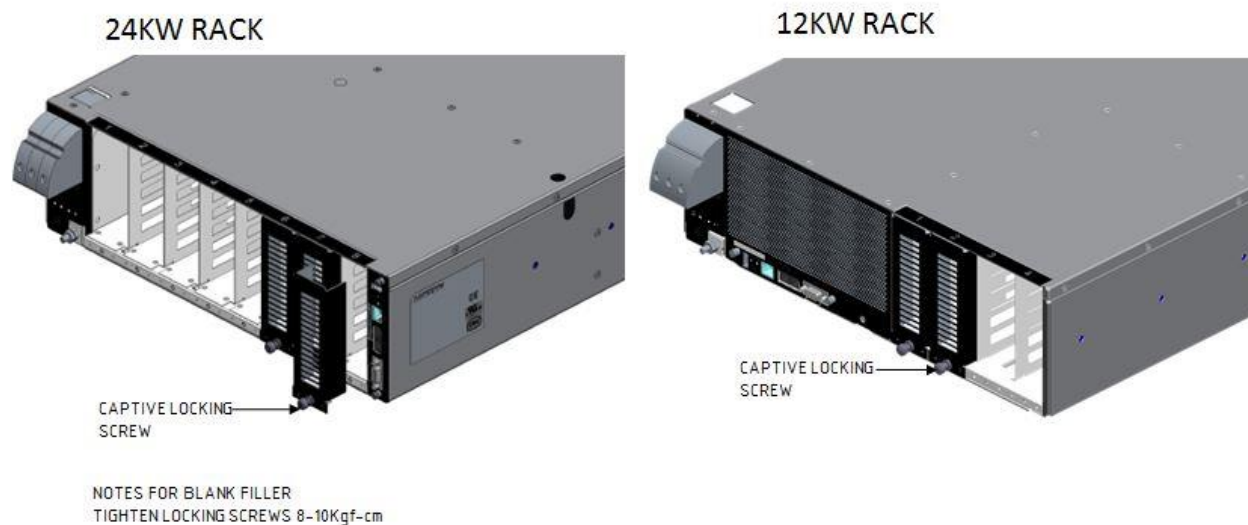

Figure 2-4 Blank panel covering for rear of system
3. Attach blank fillers to all empty slots as shown in Figure 2-4 of the rack to ensure proper airflow distribution within the rack.